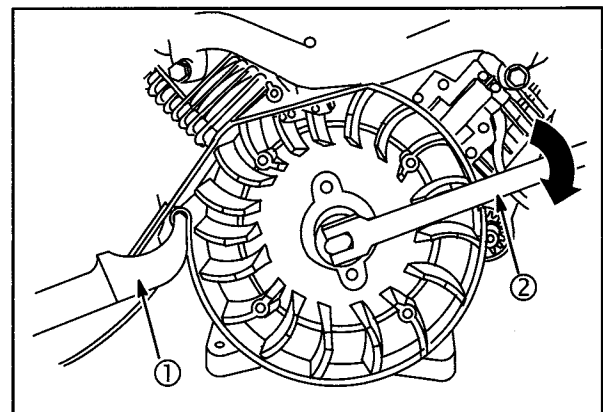

Fig. 16
2. Place Flywheel Strap Wrench #19433 (1) around outer rim of flywheel, Fig. 16.
3. Use torque wrench (2) to torque flywheel nut to **125 ft. lbs. (175 Nm)**. Models 290000, 303000 and 150 ft. lbs. (203 Nm). Models 540000 and 610000.